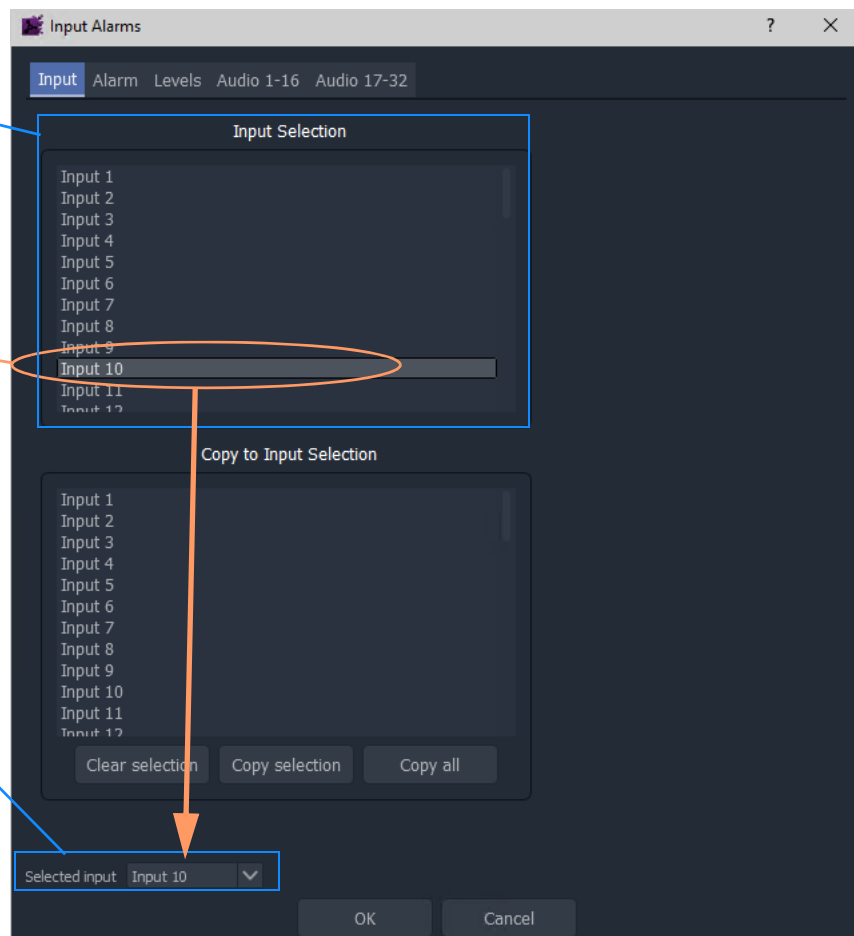

Fig. 3-2: Selecting an Input
- Select a multiviewer input to be configured for alarms, see Figure 3-2 on page 54. (See Selecting a Multiviewer Input to Configure, on page 54.)